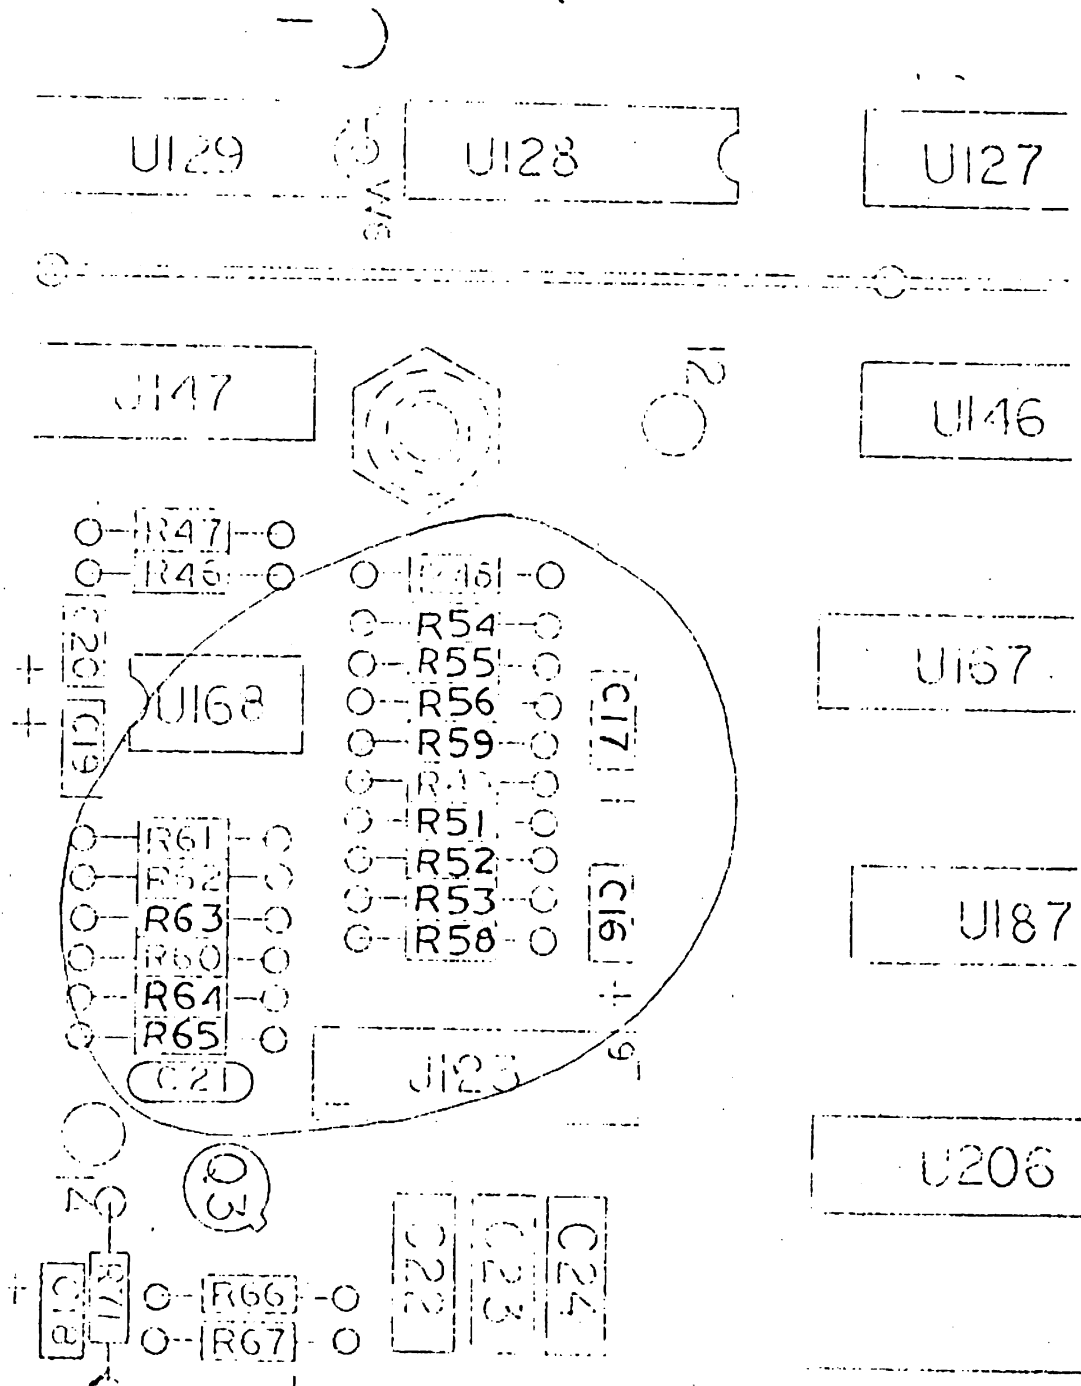

FIGURE 1
1. Locate components on PCBA (Zone C6 on 103705 schematic) R54,55,56,59,51,52,53,58 65 and C16,17. (See Figure 1).